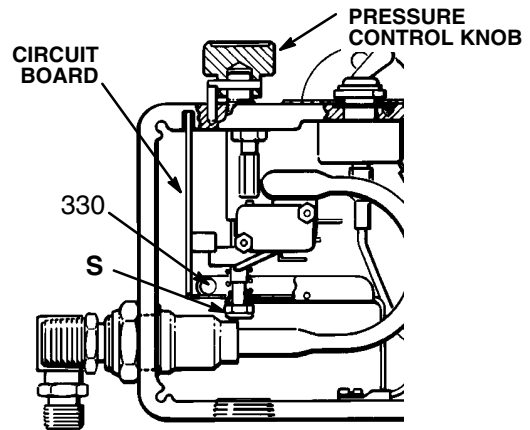

Fig 28-1
Refer to Fig 28-1 and 28-2.
2. Turn the pressure control knob all the way counter-clockwise to the minimum setting to release spring tension on the board. Also check to be sure only three or four threads of the pressure control knob shaft are exposed below the pressure adjustment nut (S). Back down the nut, if necessary. See Fig 28-1.